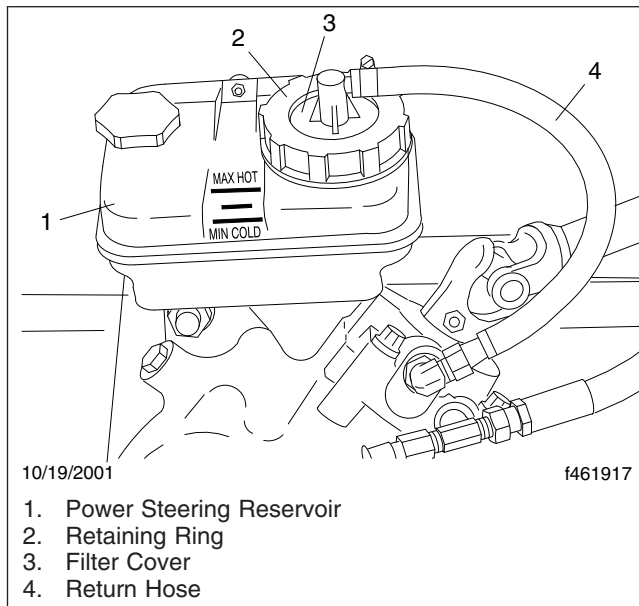

Fig. 2, Power Steering Reservoir
- Remove the retaining ring from the reservoir. See **Fig. 2**.
- Using ATF fluid that meets Dexron III or TES-389 specifications, fill the reservoir to the line between the MIN COLD and MAX HOT lines. See **Fig. 2**.